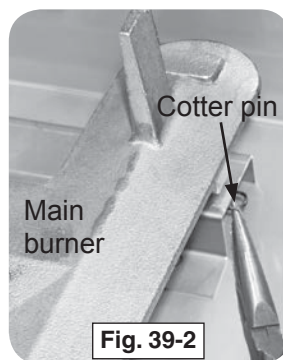

Fig. 39-2
2. Remove the cotter pin from the left or right rear burner anchoring peg by pulling it straight out of the cotter pin hole using fingers or needle-nose pliers (Fig. 39-2).